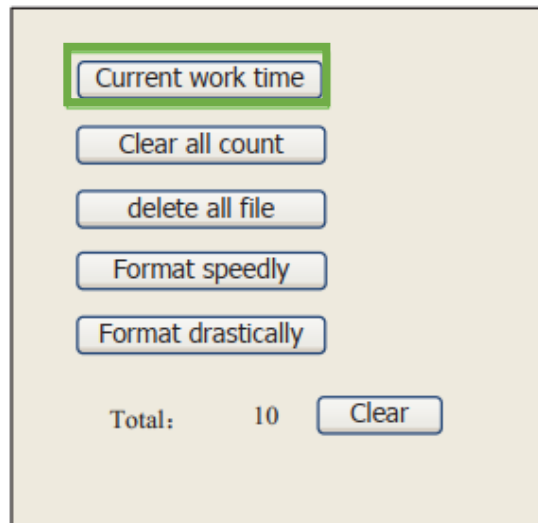

Figure 23 The “Other” Function Display
- **Other:** A menu will pop-up for more options regarding the memory files (**Figure 23**)
When the “Other” option from the “File” menu is selected, the menu shown in **Figure 23** will appear on the screen.